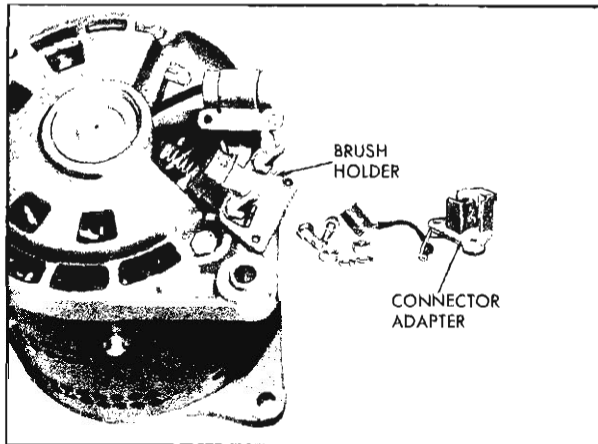

Fig. 33—Brush Holder Removal
1. Remove two nuts retaining the blade connectors and remove the connectors (fig. 33). Slide the indicator light relay wire from the terminal post.